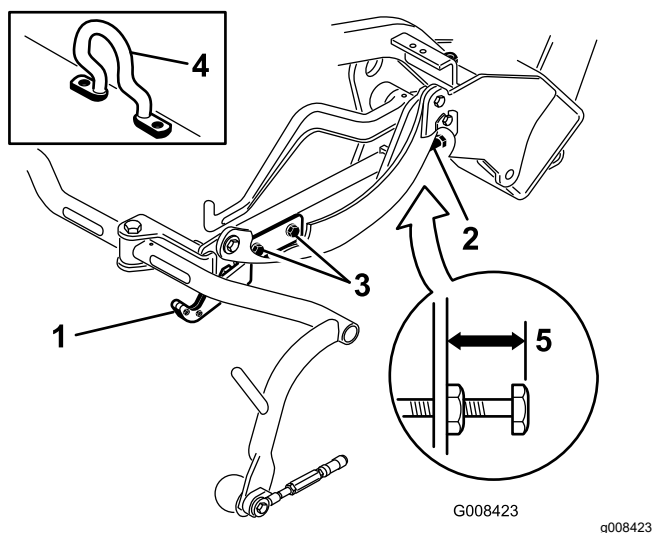
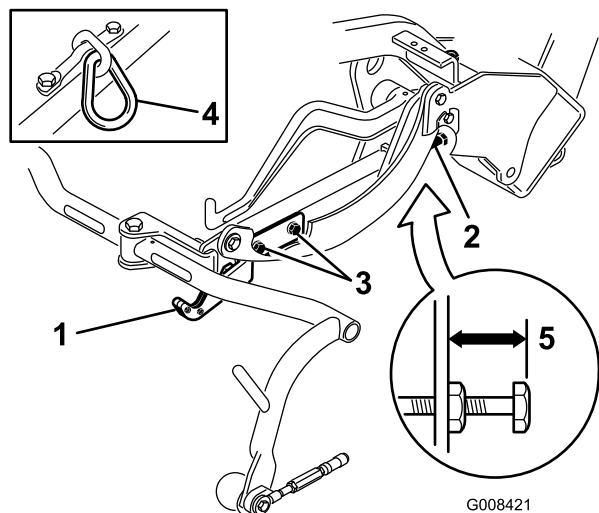
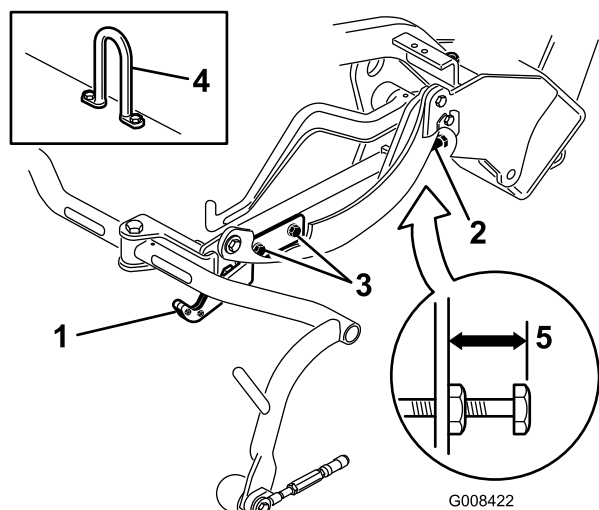

Figure 11
Figure 12
Figure 13
Check the transport height (Figure 12 and Figure 13) and adjust it if required.
2. On cutting units equipped with a offset lift hook (Figure 11 inset), verify that the distance from the top of the carrier frame adjusting screw to the back of the carrier frame is 25 mm (1 inch). If the distance is not 25 mm (1 inch), proceed to step 4.
3. On cutting units equipped with a chain link or a straight lift hook (Figure 12 and Figure 13 insets), verify that the distance from the top of the carrier frame adjusting screw to the back of the carrier frame is 22 mm (7/8 inch). If the distance is not 22 mm (7/8 inch), proceed to step 4. If the cutting unit is equipped with an offset lift hook (Figure 11), proceed to the next step.
4. Loosen the transport plate mounting screws (Figure 12, Figure 13, and Figure 11).
7. If the carrier frames are not at the same height, loosen the jam nut on the carrier frame adjusting screw (Figure 11, Figure 12, and Figure 13). Rotate the screw outward to raise and inward to lower. Tighten the jam nut after you obtain the proper height.